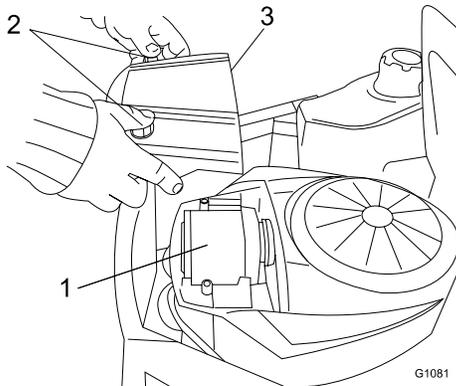

Figure 22
1. Remove the air cleaner cover (Figure 22).
2. Remove the air cleaner element with the integral rubber seal (Figure 22).
5. Install the air cleaner element with the pleated side "out" and seat the rubber seal onto the edges of the air cleaner base (Figure 22).
6. Reinstall the air cleaner cover and secure with the two knobs (Figure 22).